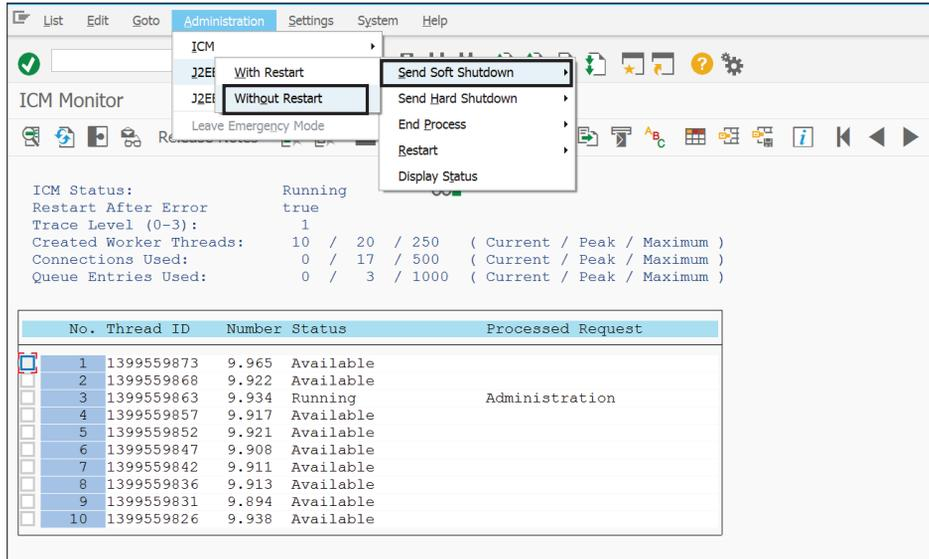

Figure 83 Stop the Java Stack
1. Log on to the ABAP stack and execute Transaction SMICM. Select **ADMINISTRATION • J2EE INSTANCE LOCAL • SEND SOFT SHUTDOWN • WITHOUT RESTART** to stop the Java stack (see Figure 83).